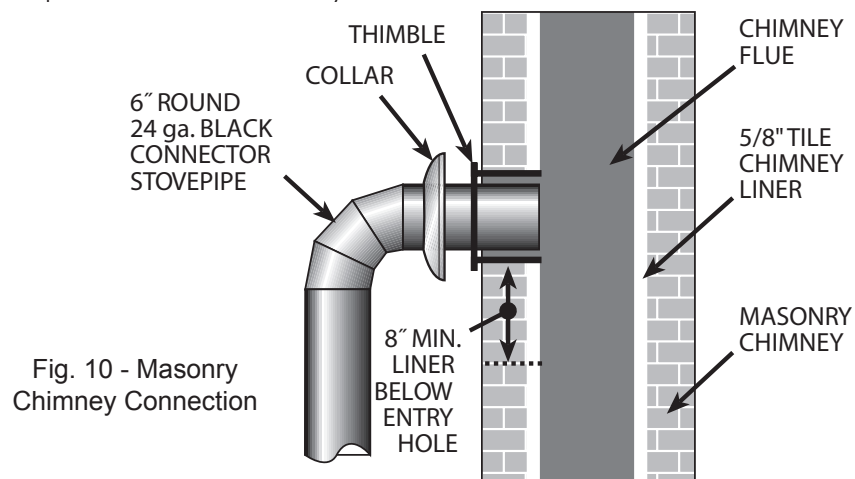

Fig. 10 - Masonry Chimney Connection
Connection may be made to a code-approved masonry chimney with flue liner. Before using an existing masonry chimney, clean the chimney, inspect the flue liner and make any repairs needed to be sure it is safe to use. Make repairs before attaching the stove. The connector stove pipe and fittings you will need to connect directly to a lined masonry chimney are shown in figure 10. If the connector stove pipe must go through a combustible wall before entering the masonry chimney, consult a qualified mason or chimney dealer. The installation must conform to local building and fire codes and latest edition of NFPA 211. If there is a clean out opening in the base of the chimney, close it tightly.
2. Install a fire clay (5/8" minimum thickness) thimble. Make sure the thimble is flush with the inner surface of the chimney liner and does not protrude into the flue (see figure 10 on page 9).